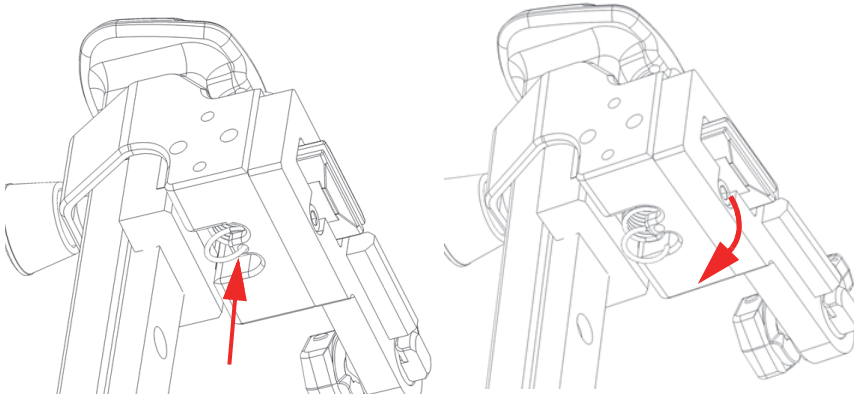

Figure 2-26 Removal of the spring from the fixation hole
1. Using a pair of long-nose pliers, remove the bottom part of the spring from the hole of the SLA bracket (Figure 2-26 on page 56).